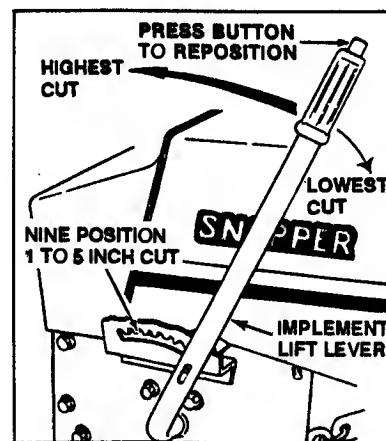

FIG. 10 - IMPLEMENT LIFT LEVER
The cutting height can be changed to any one of nine positions by raising or lowering the cutting deck attachment with the implement lift lever as shown. Refer to FIG. 10.
5. Place implement lift lever in lowest position (full forward), raise deck and secure to rear lift arm bracket with washer and small hairpin. (FIG. 10)